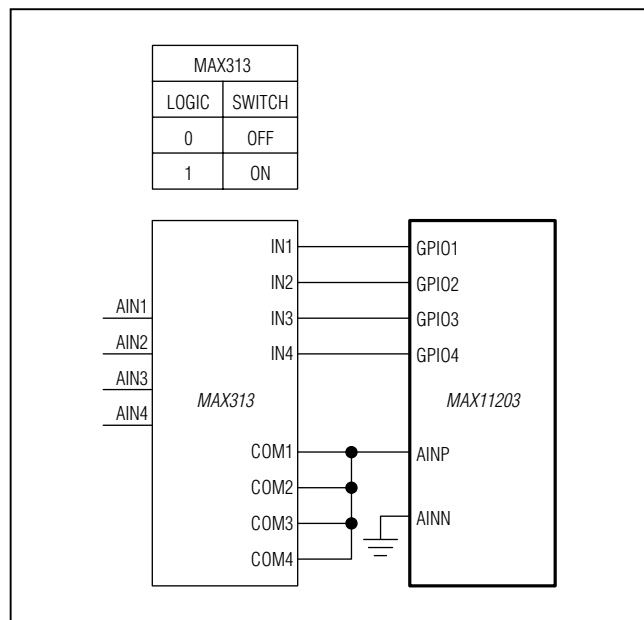

Figure 3. MAX11203 GPIOs Drive an External 4-Channel Switch (MAX313)
The devices provide four GPIO ports. When set as outputs, these digital I/Os can be used to drive the digital inputs to a multiplexer or multichannel switch. Figure 3 details an example where four single-ended signals are multiplexed in a break-before-make switching sequence, using the MAX313, a quad SPST analog switch.
Table 4a. Data Command to Select Channel AIN1 in Figure 3
Table 4b. Set All Channels High Impedance in Figure 3
**Table 4c. Data Command to Select Channel AIN3 in Figure 3**